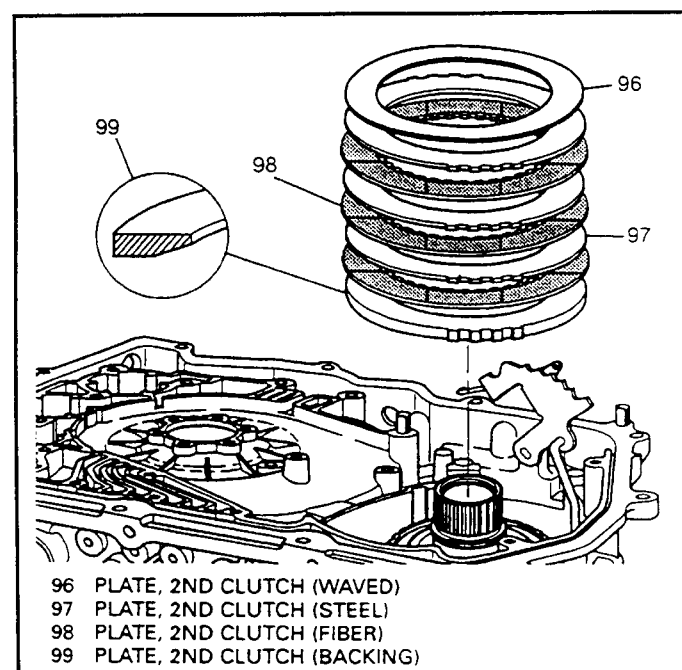

Figure 156
31. Install the 2nd clutch backing plate (99) into the transaxle case with the flat side facing up and the beveled side facing down as shown in Figure 156.
32. Install the three steel plates (97) and three new lined plates (98), beginning with a lined plate against the backing plate and alternating with steel plates, as shown in Figure 156.
33. Install the 2nd clutch wave plate (96) on top of the last steel plate as shown in Figure 156.